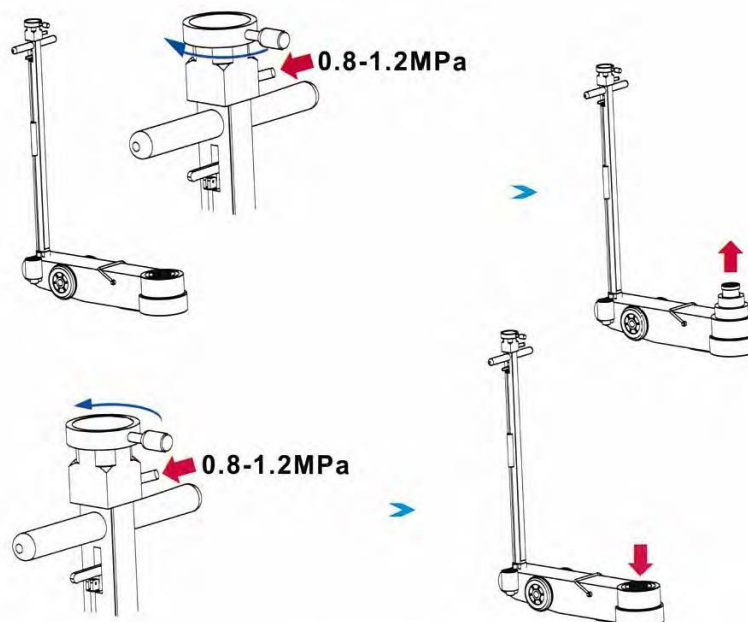

Figure 7 – Advancing & Lowering the Load
- 6.3.1 Move the control valve handle to the UP position to advance the cylinder (Fig. 7). Once the load has been raised to the desired height, release the control valve handle.
- 6.3.2 Move the control valve handle to the DOWN position to retract the cylinder (Fig. 7). Once the load has been lowered to the desired height, release the control valve handle.